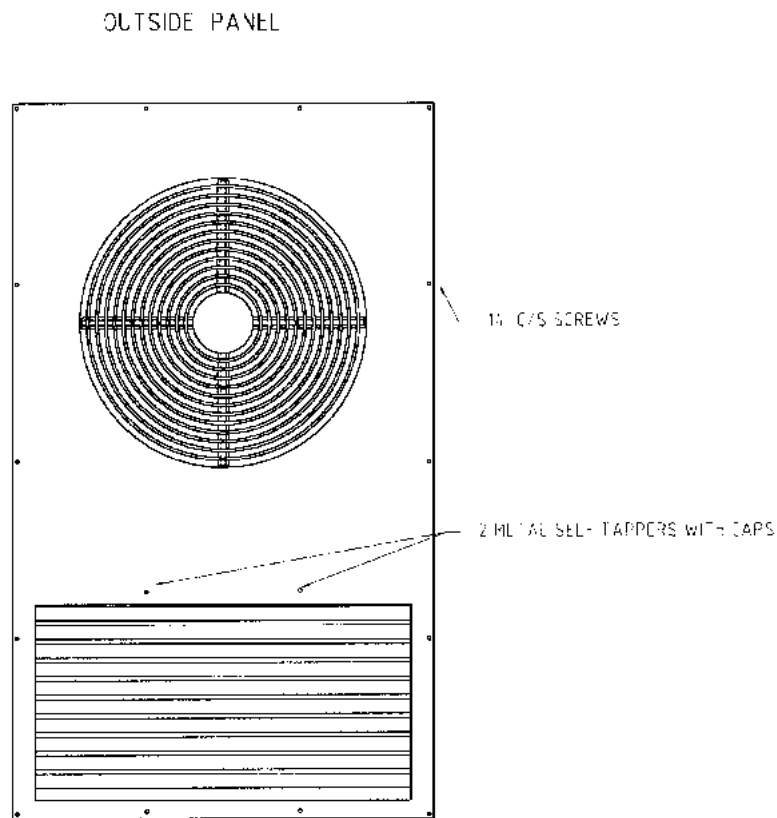

Figure 14
■ Fitting of the Outside Louvre Panel (See fig. 14)
The outside panel will fit snugly over the flanges of the condenser set. Using the c/s screws provided, fit one in each corner. Now check that the fan has at least 3mm running clearance all around. Now screw in the 2 metal thread screws as provided across the centre. (see fig 14) . Fit the rest of the c/s screws around the outside and fit caps provided.